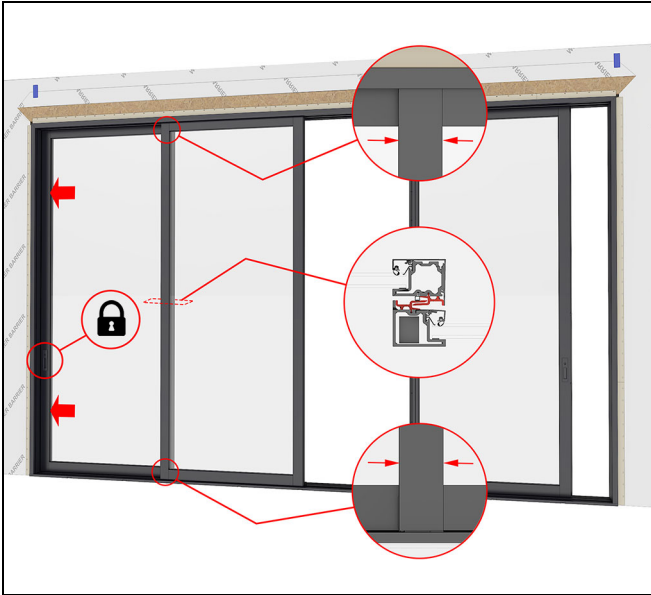

Figure 166 XOOX
9. Close and lock the operator panel. The interlocks should engage and the stationary panel may move slightly. If the stationary panel did not move, firmly slide the stationary panel opposite the closing direction of the operator panel to fully engage the interlocks. See Figure 166.